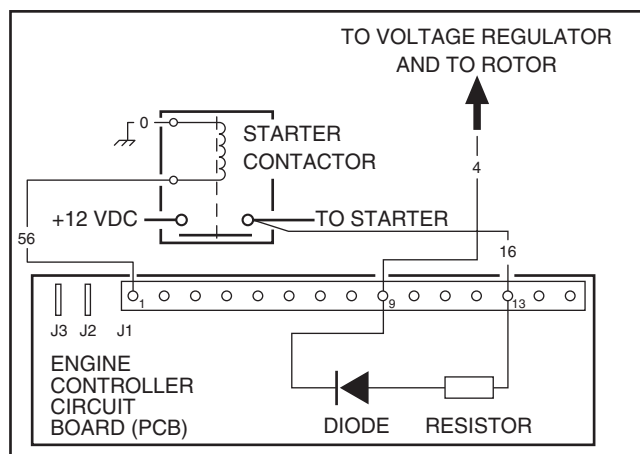

Figure 7-4. – The Field Boost Circuit
4. Connect the positive (+) test lead to Wire No. 16 at pin location J1-13 on the PCB (see Figure 7-4) (J1, J2 & J3 connectors remain connected to PCB). Connect the negative(-) test lead to a clean frame ground.
6. Connect the positive (+) test lead to Wire No. 4 at pin location J1-9 on the PCB (see Figure 7-4) (J1, J2 & J3 connectors remain connected to PCB). Connect the negative(-) test lead to a clean frame ground.